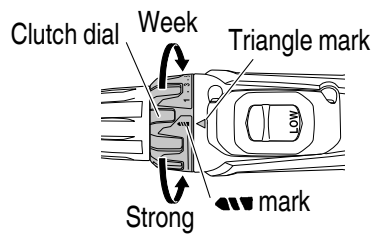

Fig. 12
6. Confirm the clutch dial position (See Fig. 12)